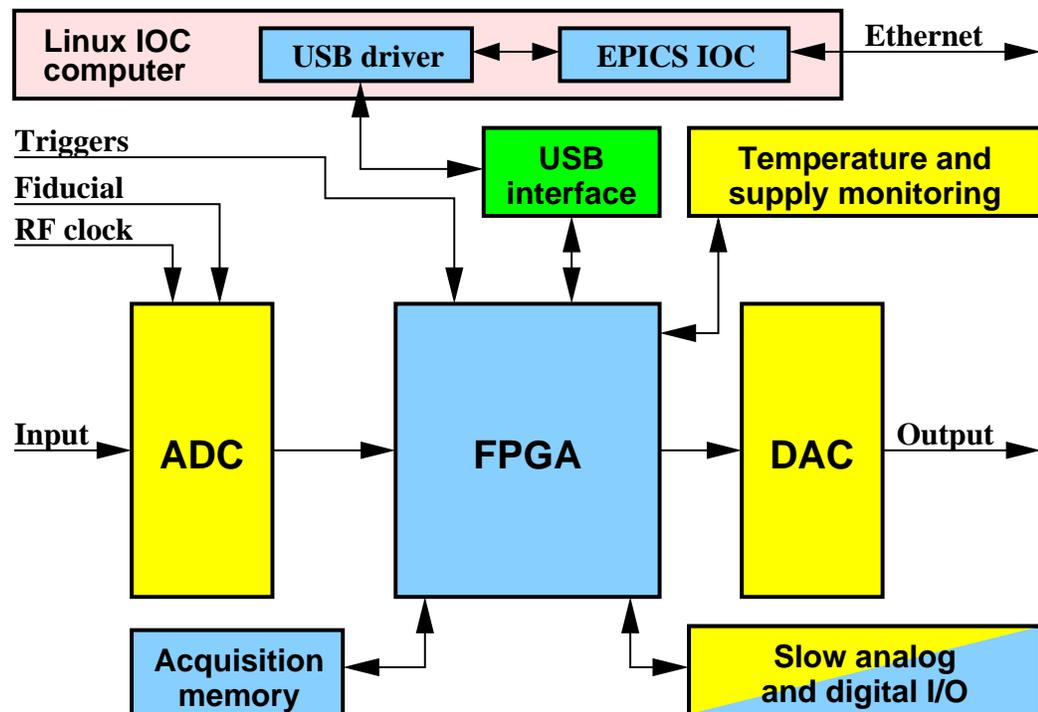

Figure 1: iGp-5120F block diagram
A block diagram of the iGp-5120F system is shown in Figure 1. The main signal processing chain consists of a high-speed analog-to-digital converter (ADC), a field programmable gate array (FPGA), and a high-speed DAC and is driven by the radio frequency (RF) clock. In addition to performing real-time control computations, the FPGA interfaces to a number of on-board devices, such as high-speed data acquisition memory (static random access memory (SRAM)), low-speed analog and digital input/output (I/O), as well as temperature and supply voltage monitors. In turn, the FPGA uses an internal universal serial bus (USB) connection to communicate to an embedded input-output controller (IOC) computer housed in the same chassis. The IOC runs the Linux operating system and is connected to the overall control system via the Ethernet.